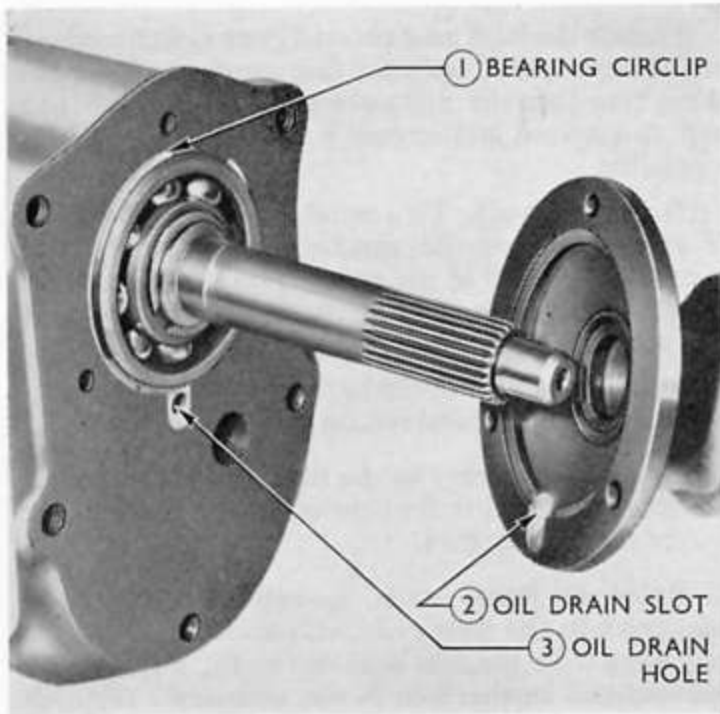

Fig. 9
19. Fit the main drive gear bearing retainer. Place a new gasket on the gearbox front face and ensure that the oil groove in the retainer is in line with the oil passage in the gearbox casing and the gasket does not cover this passage (see Fig. 9). Coat the three retaining bolts with suitable sealer, fit a spring washer on each bolt, then tighten the bolts securely.